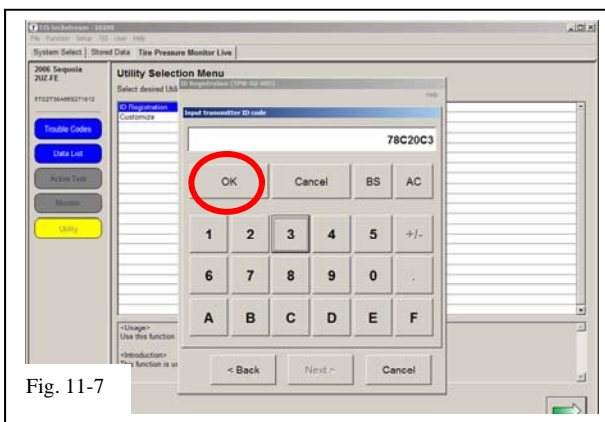

Fig. 11-7
- (j) Input the TPMS ID code then click “OK” Repeat the same procedure for all other TPMS ID codes (Fig. 11-7).